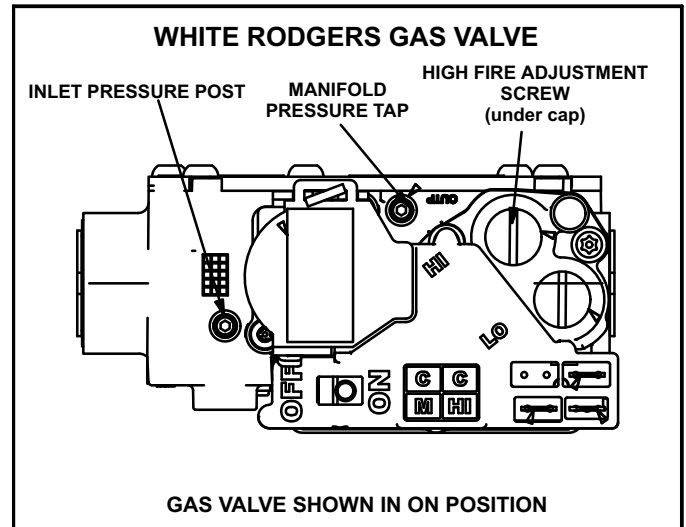
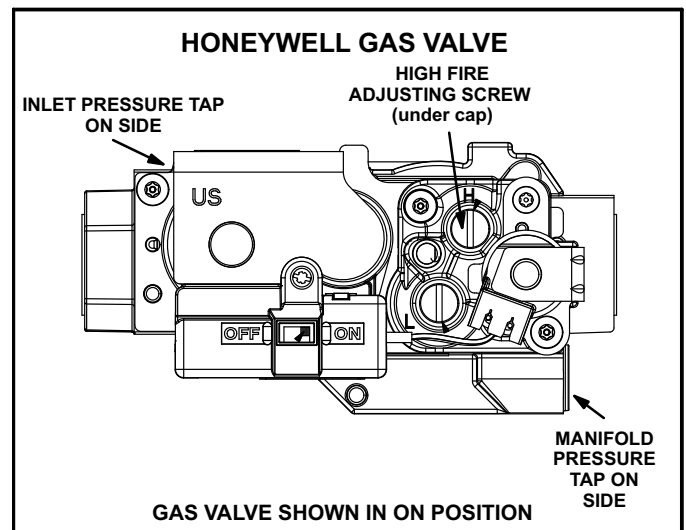

FIGURE 35
FIGURE 36
Gas Valve Operation (Figures 35 and 36)
- 6 - Move gas valve switch to **OFF position**. Do not force. See figure 35 or 36.
- 8 - Move gas valve switch to **ON position**. Do not force. See figure 35 or 36.
- 4 - Move gas valve switch to **OFF position**. Do not force. See figure 35 or 36.
An inlet post located on the gas valve provides access to the supply pressure. See figure 35. Back out the 3/32 hex screw one turn, connect a piece of 5/16 tubing and connect to a manometer to measure supply pressure. See table 22 for supply line pressure.
- 1 - Connect test gauge to manifold pressure post (figure 35) or tap (figure 36) on gas valve.
- 4 - If necessary, make adjustments. Figures 35 and 36 show location of high fire adjustment screw.